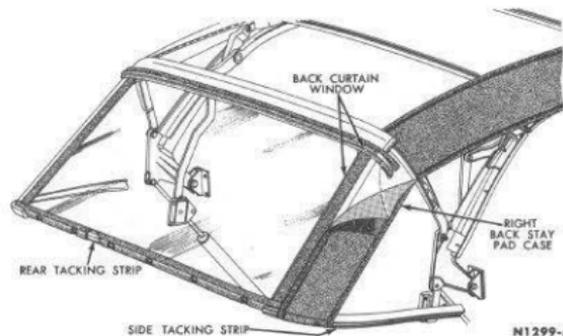

FIG. 127—Back Curtain Window
5. Pull the tacking strips from the curtain and remove the staples from the tacking strip (Fig. 127).
2. Remove the rear bow binding end caps, pry the binding open, and remove the staples and binding (Fig. 127).
4. Remove the staples retaining the top right and left back stay pad case assemblies to the rear bow (Fig. 127).